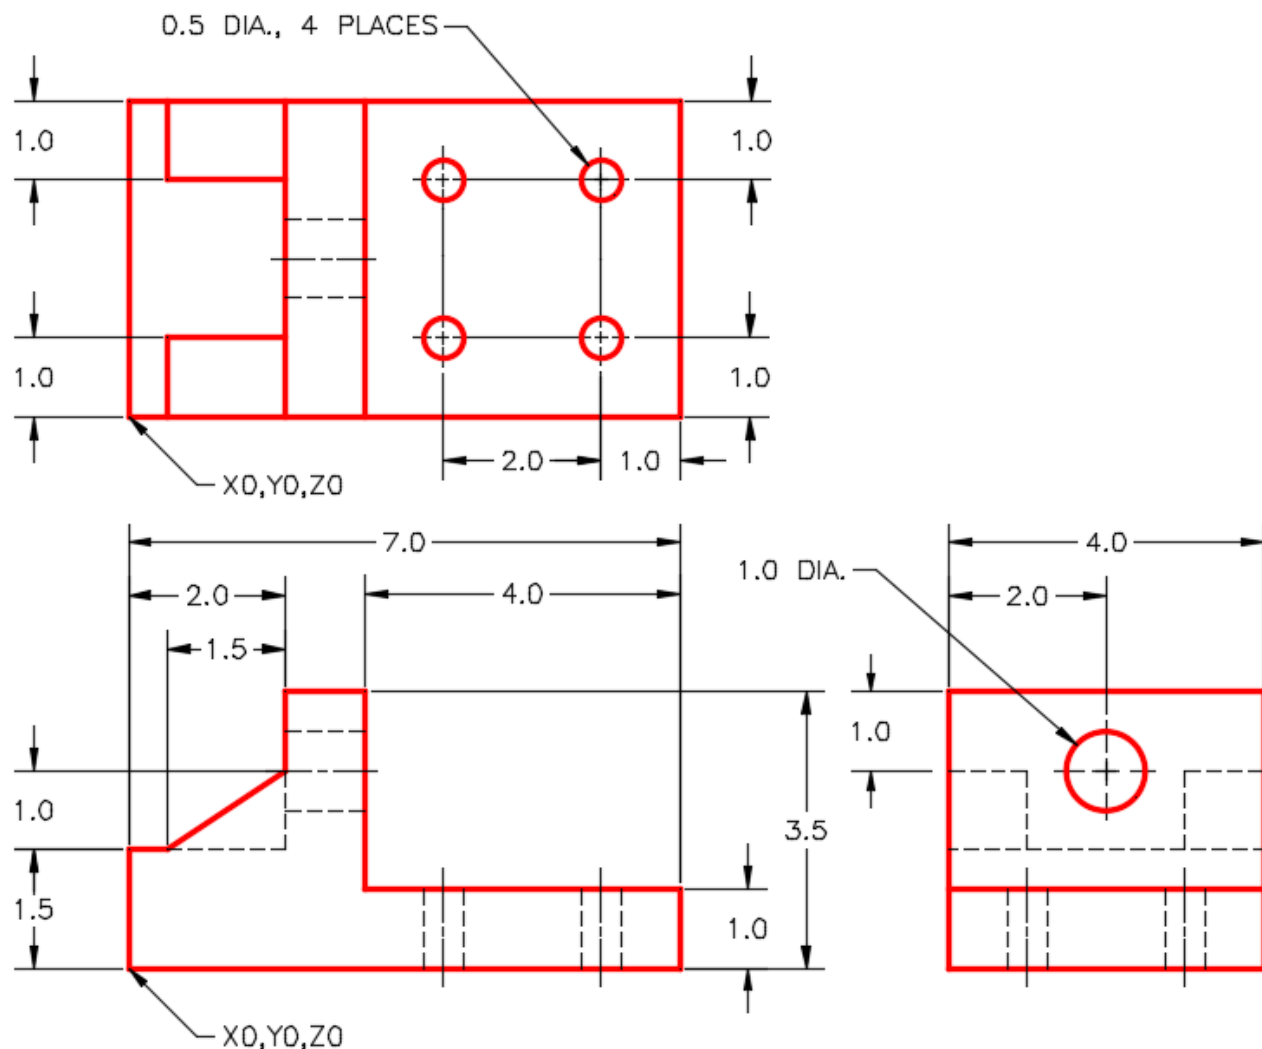

Figure Step 1A
Step 1 On layer Solid 3, draw a solid model of the object. (Figure Step 1A, 1B, and 1C)